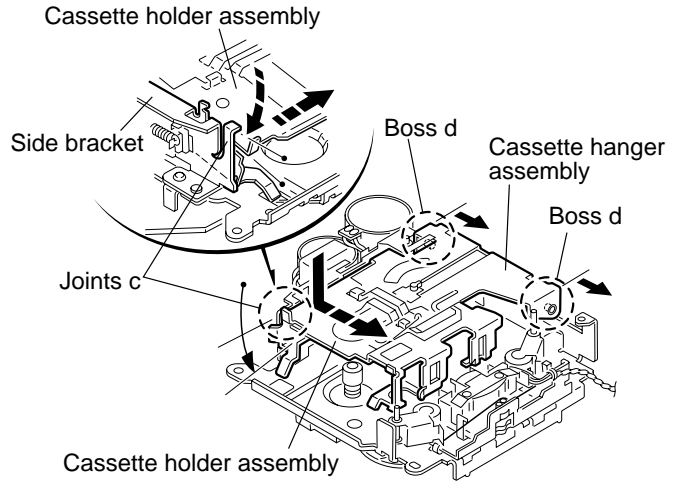

Fig.4
**■ Removing the cassette hanger assembly / cassette holder (See Fig.4 to 7)**